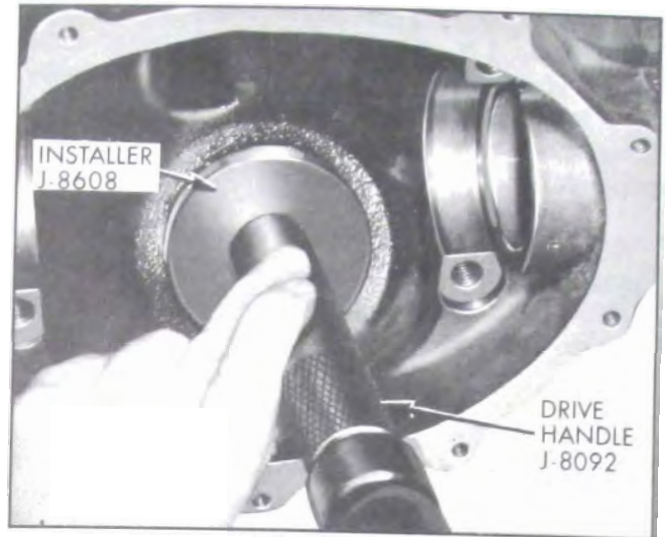

Figure 6-22—Installing Rear Pinion Bearing Outer Race
1. If rear pinion bearing is to be replaced, install new outer race using Installer J-8608 with Driver Handle J-8092. See Figure 6-22.